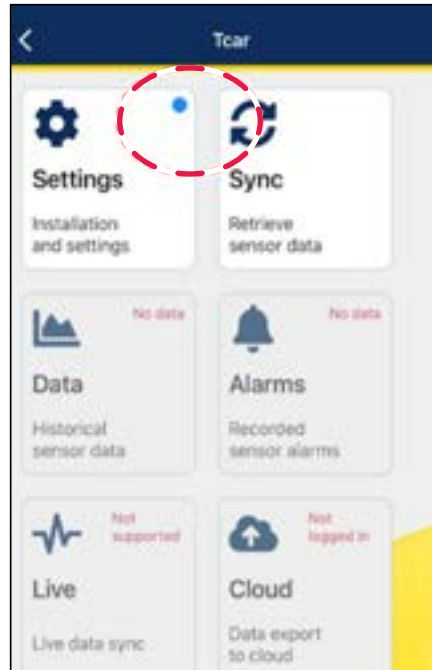

Figure 56
1. Select **Settings** (figure 56).